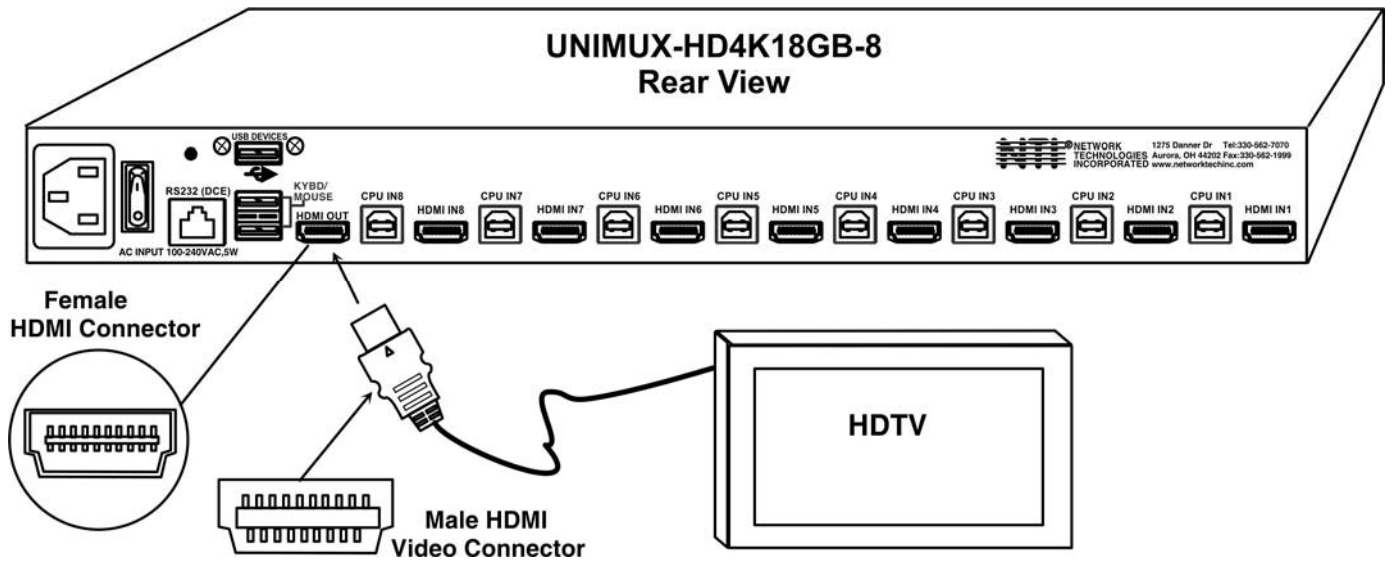

Figure 4- Connect a HDTV monitor
2. Connect the cable from a monitor to the HDMI connector labeled "HDMI OUT" on the UNIMUX (See Fig. 4 below.)